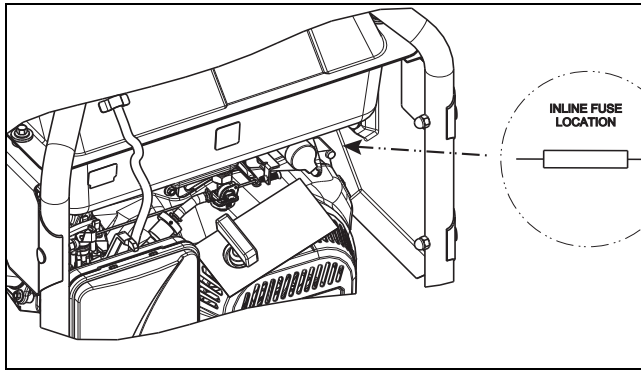

Figure 4-9. Battery Charger Fuse
1. The battery charger fuse is located behind the control panel as shown in Figure 4-9. It is secured with a rubber coated clamp.